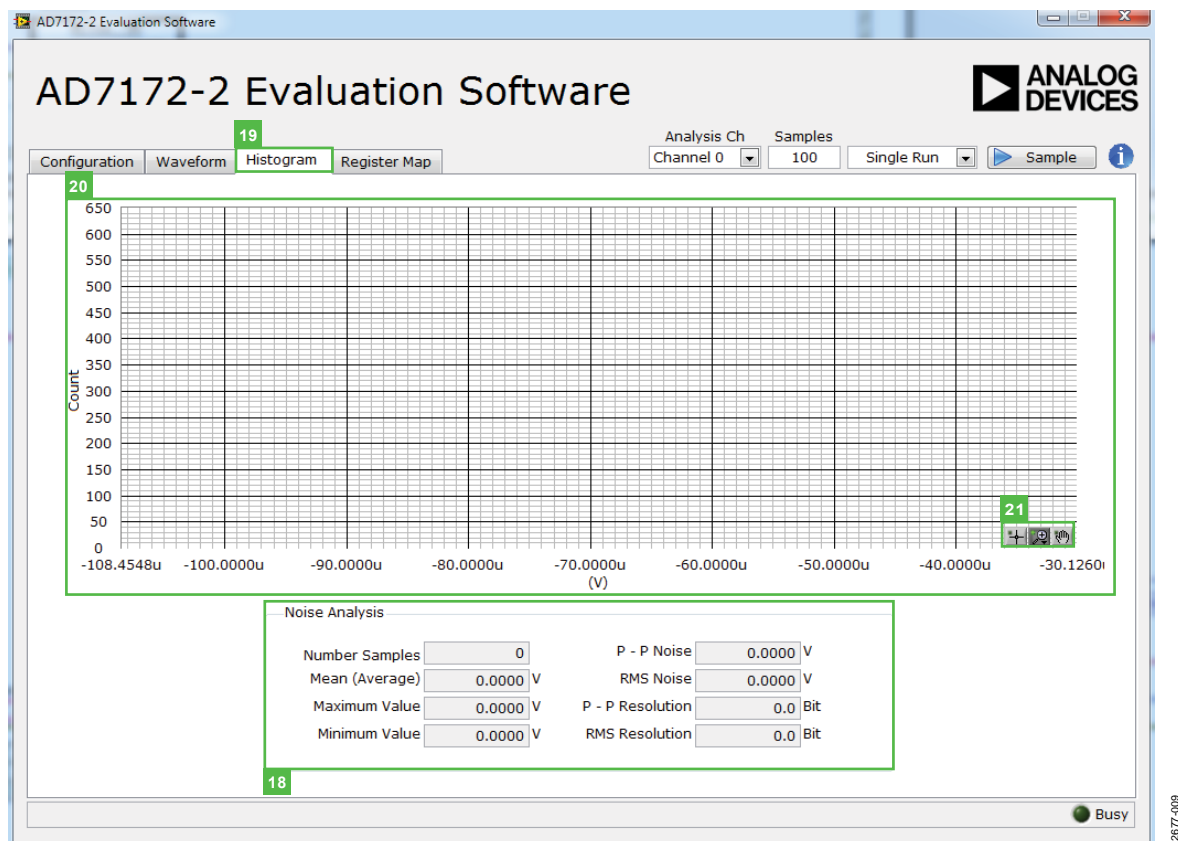

Figure 9. Histogram Tab of the AD7172-2 Evaluation Software
See Figure 9 for the **Histogram** (19) tab.
The data histogram graph (20) shows the number of times each sample of the ADC output occurs. The control toolbar (21) in the histogram graph allows you to zoom in on the data (see Figure 9). Click on the x-axis and y-axis to change the scales on the graph (see Figure 9).